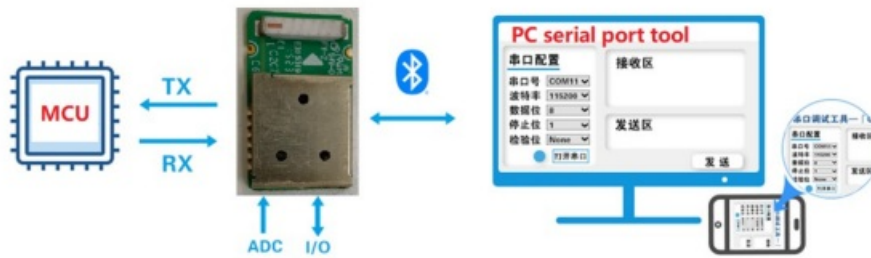

Figure1. PC/mobile communication with embedded MCU via TTBLE
- **Figure 1.** PC/mobile communication with embedded MCU via TTBLE